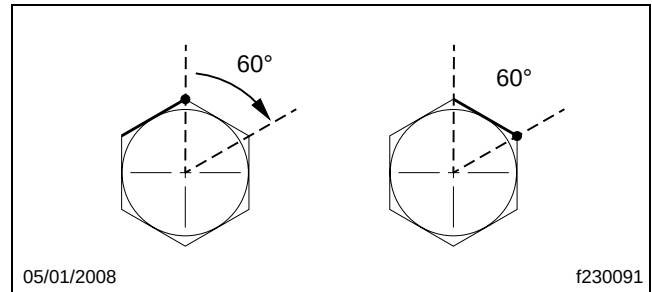

Fig. 10, Turning the Fitting One Flat (60 degrees)
47. Attach the lines to the plumbing adaptors on the steering gear, while ensuring that the lines will not touch the axle or each other once installed. Snug the connection with a wrench to ensure the fittings are seated, which is equivalent to approximately 2 lbf-ft (3 N·m). Then, using a backup wrench to keep the adaptors from turning, tighten the return and supply hoses by 1 flat of the tube nut (60 degrees). See **Fig. 10**.